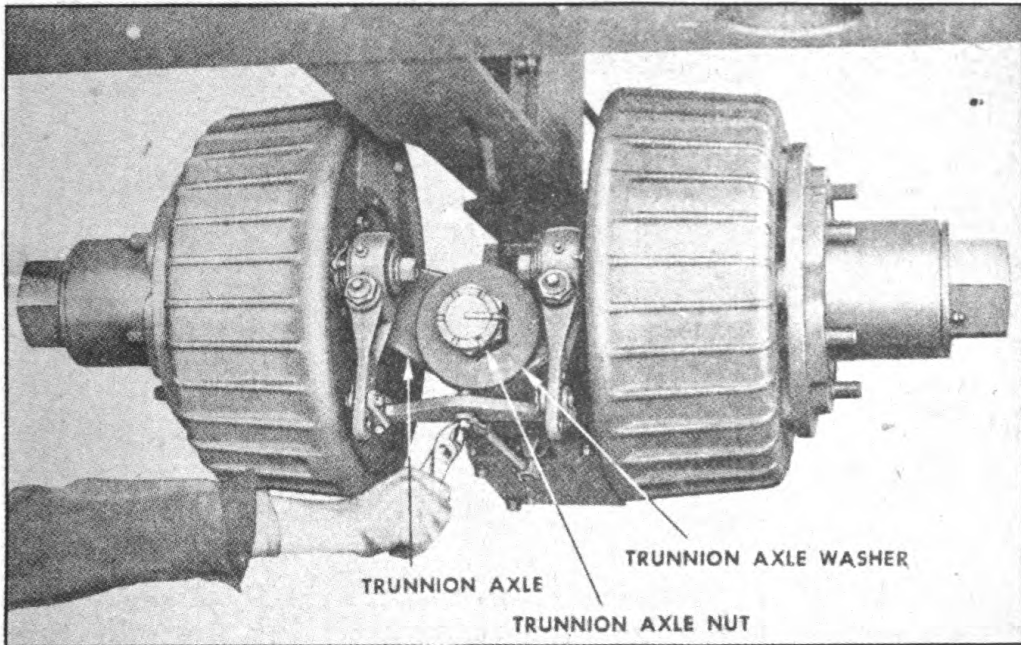
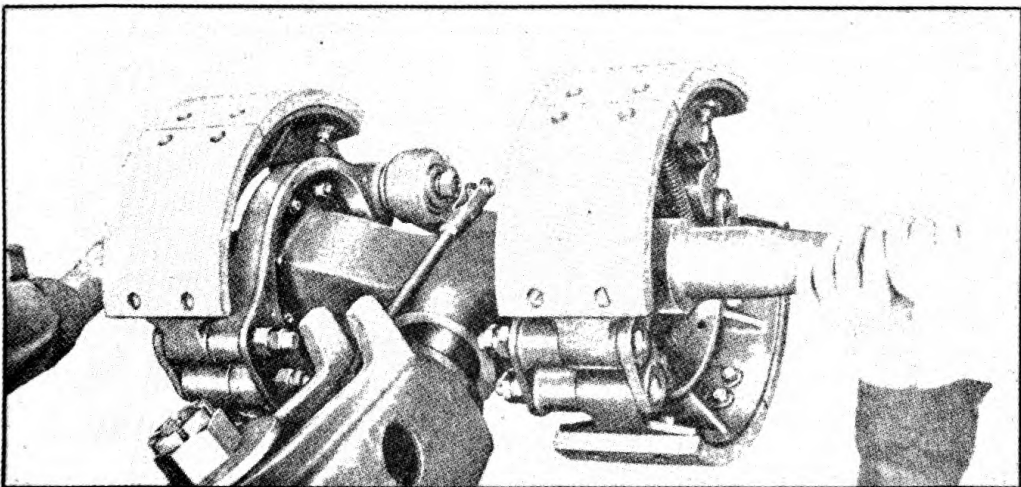

FIGURE 14. TRUNNION AXLE
FIGURE 15. TRUNNION AXLE REMOVAL
a. Removing trunnion axle (Figure 14).—(1) **NOTE:** Removal procedure for all four trunnion axles is identical. All four are interchangeable from front to rear, right to left.
(2) If hoisting facilities are not available, then hydraulic jacks must be used. Place jacks under rear crossmember and jack trailer up until wheels clear the ground at either front or rear of rocker beam.
(3) Remove the two inner wheels from the hub assembly (paragraph 2, section XIV).
(4) Remove outer wheel and hub assembly in one unit (paragraph 3, section XIV).
(5) Remove clevis pin from equalizer (Figure 14).
(6) Remove the two cotter pins from equalizer links.
(7) Remove cotter key and nut from rocker beam.
(8) Slide the complete axle assembly off rocker beam (Figure 15).